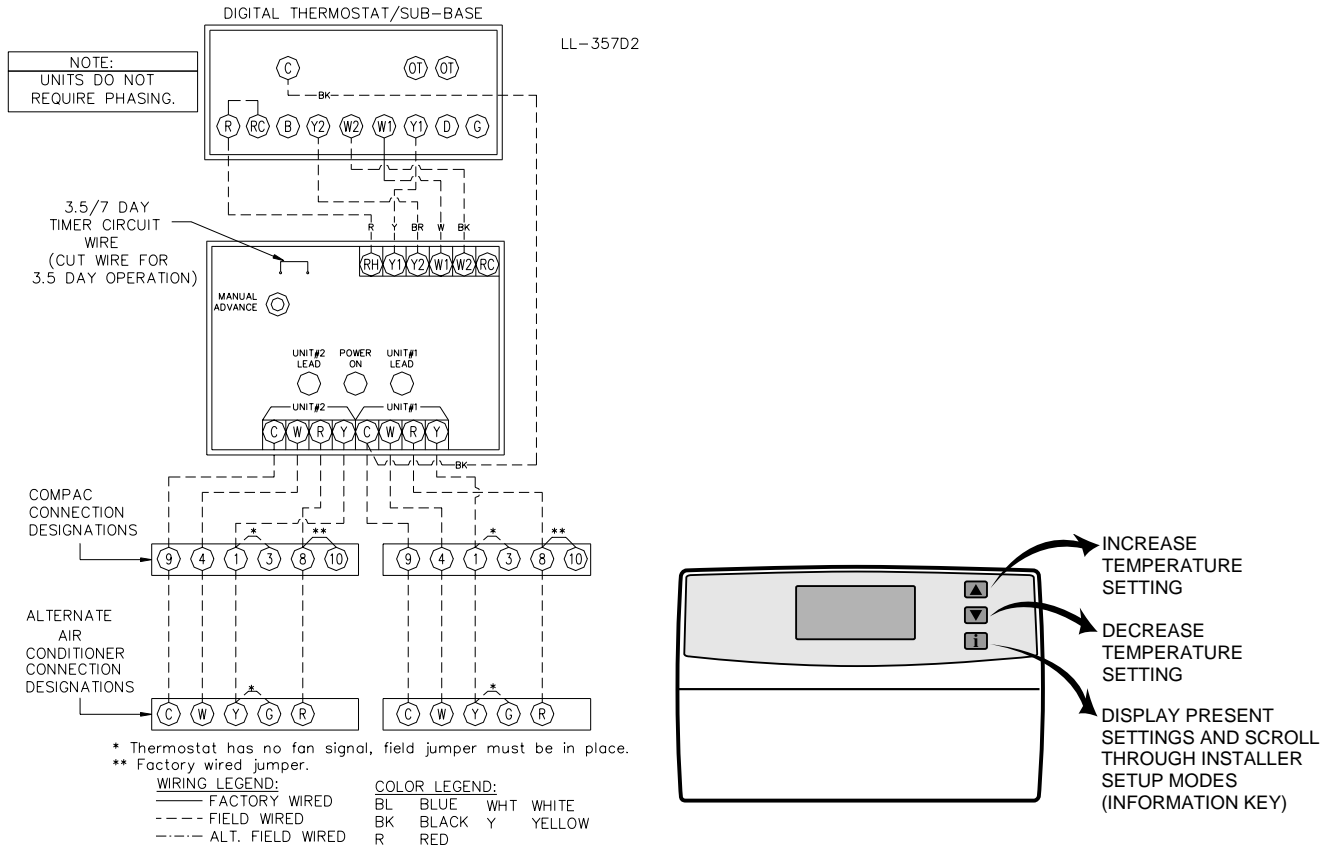

Figure 8b. LL357D2 Wiring Diagram & Thermostat Keys
LL357D2 Lead/Lag Controller (See Figure 8b)
3. On dual units, refer to the Marvair® LL357D2 *Lead/Lag Controller Specification Sheet*. Level and install the LL357D2 subbase. Wire the two ComPac® units to the Lead/Lag Controller, according to the wiring diagram on the specification sheet and as shown in Figure 8b (note: the diagram also appears on the back cover of the LL357D2).